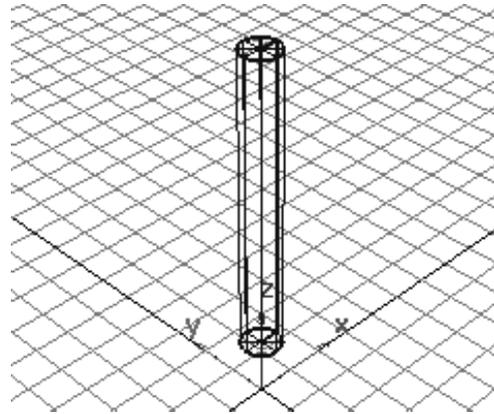

Figure 2-112 Base feature scaled
2. Enter **100, 100, 800** in the promptline and press ENTER; the base feature is scaled non-uniformly along the X, Y, and Z axes, as shown in Figure 2-112.